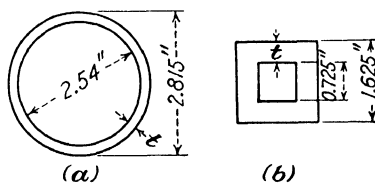

Fig. 39.
14. Find the wall thickness t of the tubes in Fig. 39.